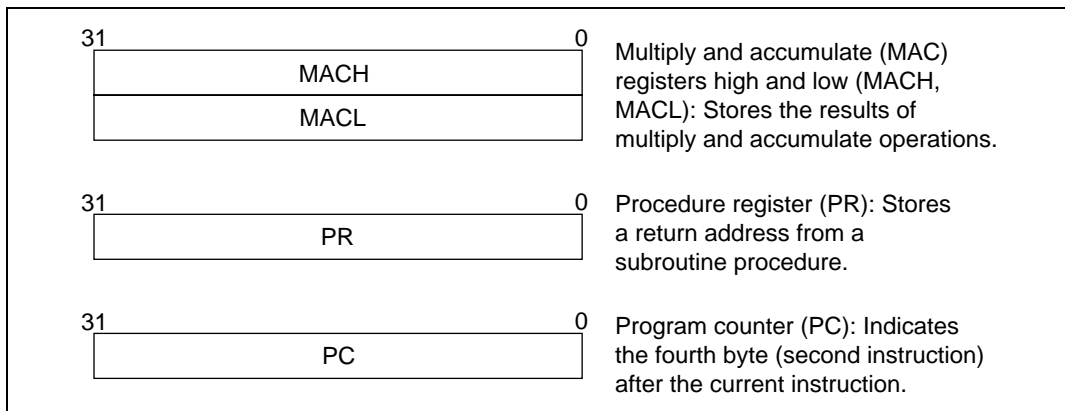

Figure 2.3 System Register Configuration
System registers consist of four 32-bit registers: high and low multiply and accumulate registers (MACH and MACL), the procedure register (PR), and the program counter (PC). The multiply and accumulate registers store the results of multiply and accumulate operations. The procedure register stores the return address from the subroutine procedure. The program counter stores program addresses to control the flow of the processing. Figure 2.3 shows a system register.